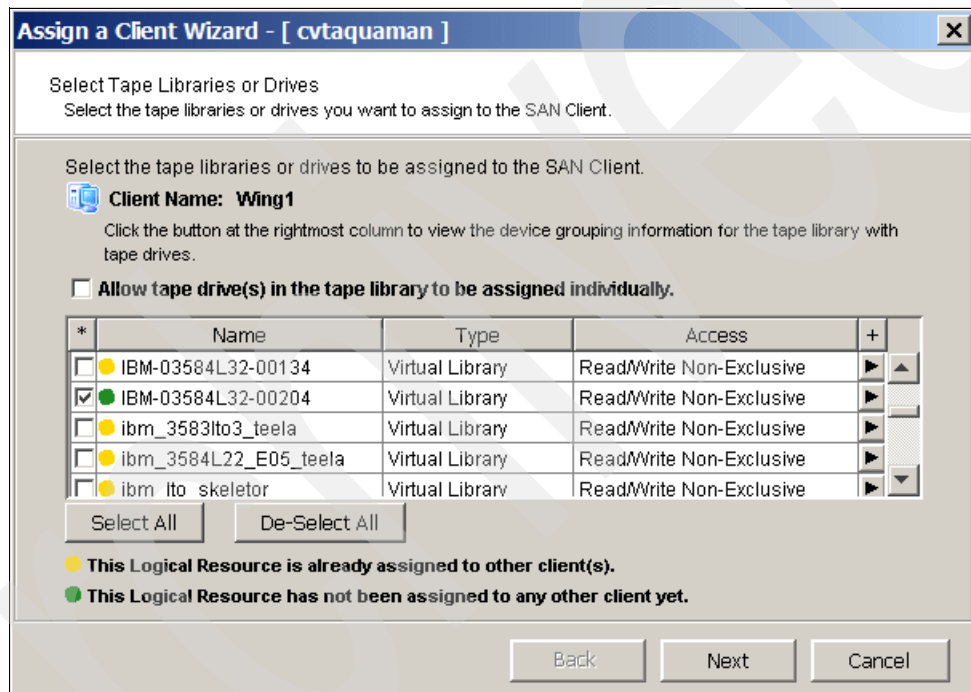

Figure 8-25 TS7500 - Select virtual tape library to assign
2. In the *Select Tape Libraries or Drives* panel (Figure 8-25), you can select different access modes to assign libraries and drives. The access types are: